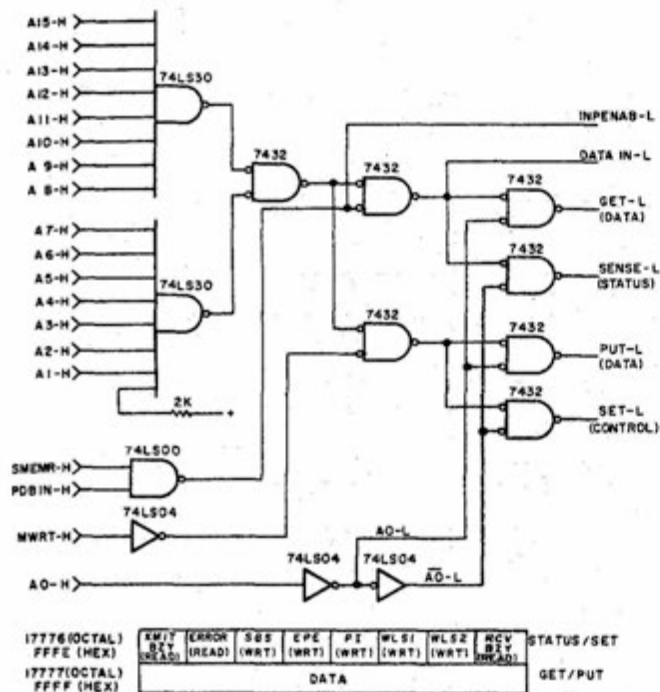

Fig. 6. Memory - Mapped I/O Address Decoding.
mind. Port I/O has the advantage of having less address lines to decode (8) as well as leaving all 65K of the address space available for memory. It has the advantage of being limited to only two types of instructions in transferring data to and from the I/O device (IN, OUT). **Memory-mapped I/O** is a method in which the I/O device is treated as if it were a memory location or group of memory locations. Memory mapped I/O has the advantage of being able to use any of the transfer instructions that are used with real memory, including arithmetic and logical as well as move instructions. The disadvantages are the need to decode more address bits (16) and the fact that part of memory address spectrum is consumed for I/O use. An example of port I/O address decoding is shown in Fig. 5. An example of memory mapped I/O is given in Fig. 6. A bit chart with addresses is provided in each of these figures. Each is set up to perform an identical function so that you may compare the complexity of one to another.